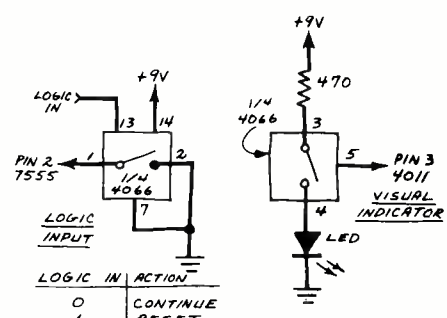

Fig. 3. Adding a logic input to the event-failure alarm.
way to do this is to replace  $S1$  with one of the analog switches in a 4066 as shown in Fig. 3. When the input is low, the analog switch is open. When the input is high, the switch's resistance falls from about  $10^9$  ohms to a few hundred ohms or less. This is low enough to simulate a mechanical switch for this circuit.
**Adding a Visual Indicator.** Figure 3 also shows how to add an LED to the circuit. In operation, the LED is normally off. When the delay time is up, the LED glows and the alarm sounds. ◇